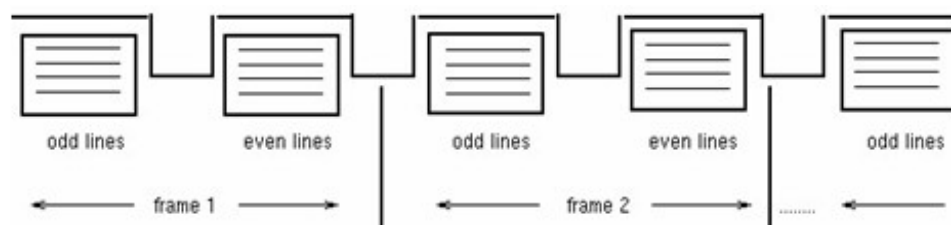

Figure 7- interlacing frames
- Video is sent interlaced. This means two frame cycles are required to capture a full video display, where the first frame are all the odd horizontal lines and the second frame are all the even lines. This then get repeated. See **figure 7 below**.